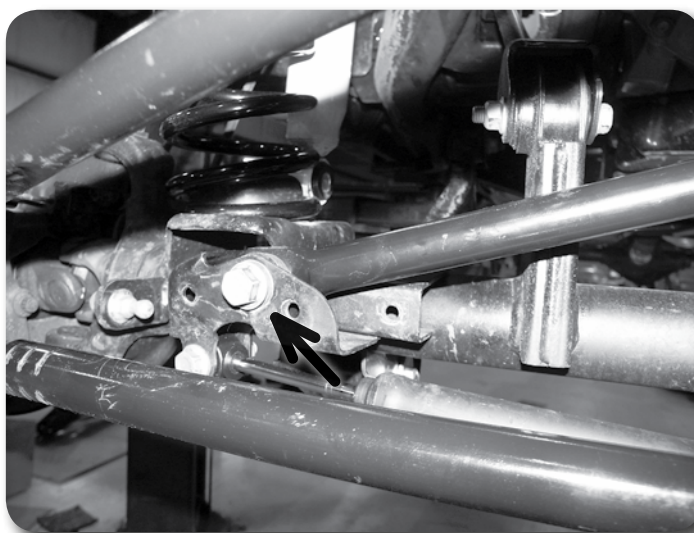

Figure 1
2. Disconnect the front track bar from the axle (passenger's side). Save mounting bolt. (Figure 1)